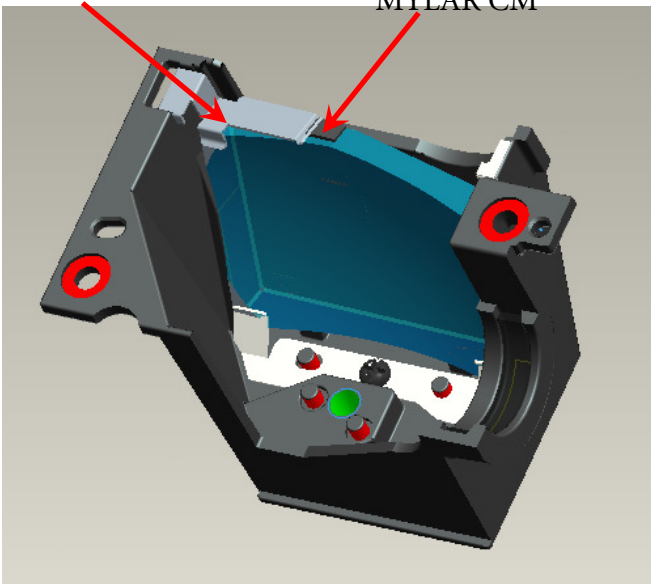

Fig. 3-4
- Assemble “MYLAR CM” to the CMD firstly, “CLIP TOP CM”(with forceps) to the “HSG ILL” (Fig. 3-4).